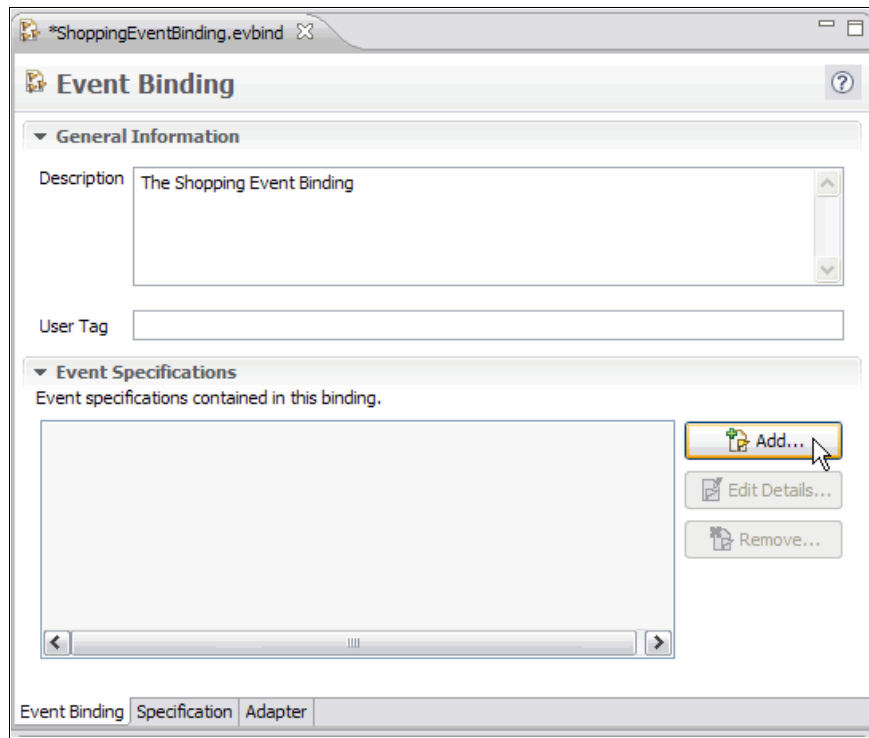

Figure 5-6 Add QueryStock binding specification
5. Add an event specification to the event binding. In the view presented (Figure 5-6), enter a description for the event binding, and click **Add**.